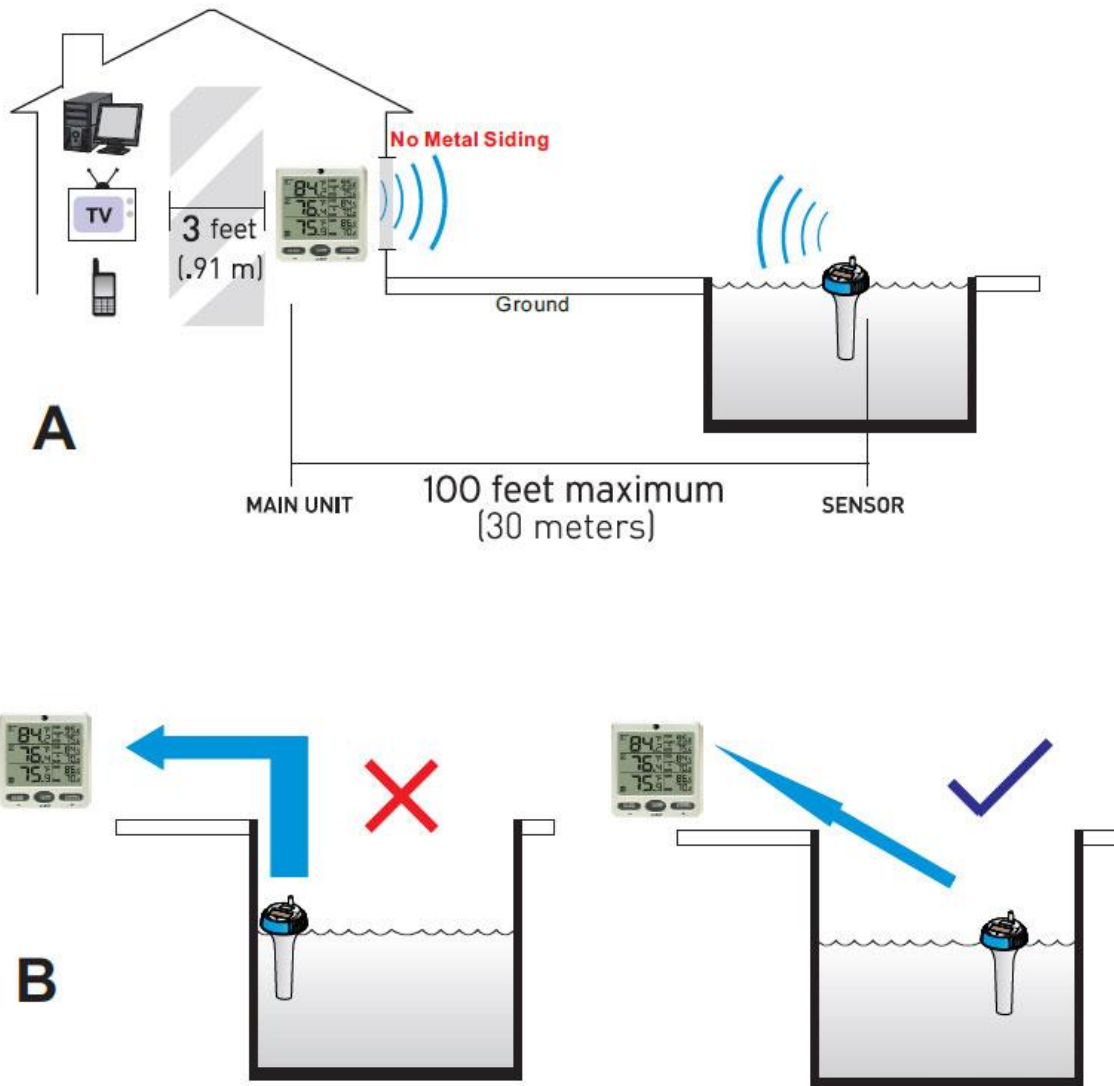

Figure 10
1. Place the sensor in the pool or spa within 100 feet of the display console (Figure 10, reference A). Avoid transmitting through solid earth or ground (Figure 10, reference B). Use a tether (string) to fix the sensor in the pool or spa.